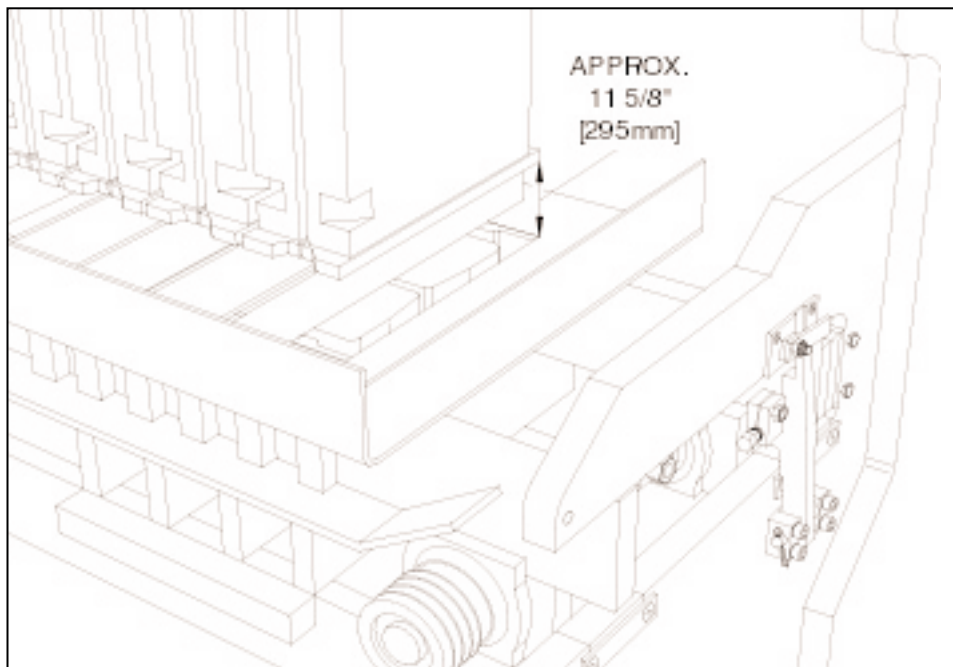

Figure 5.27 SHOES 4" [102MM] ABOVE MOLD.
5.6.6 Measure from bottom of shoe to top of mold end liners (see figure 5.27). Add dimension "C" to this measurement (dimension "C" is the amount of compression. For detailed explanations, see section 5.8).